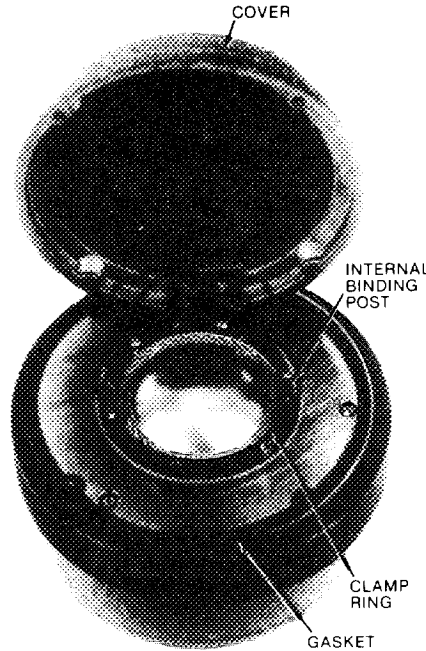

Figure 9. Typical Driver with Cover Open
3. Remove screws securing driver cover and carefully lift cover for access to interior as shown in Figure 9. The 290 driver is equipped with a covering transformer mounting plate, with or without transformer, as applicable.